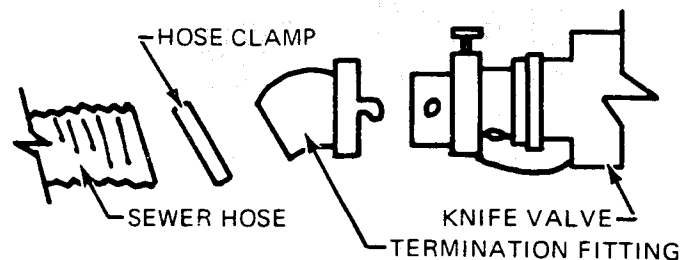

FIGURE 7 - TERMINATION FITTING INSTALLATION
2. Place sewer line over the termination fitting and secure by tightening the "C" type clamp (see Figure 7).